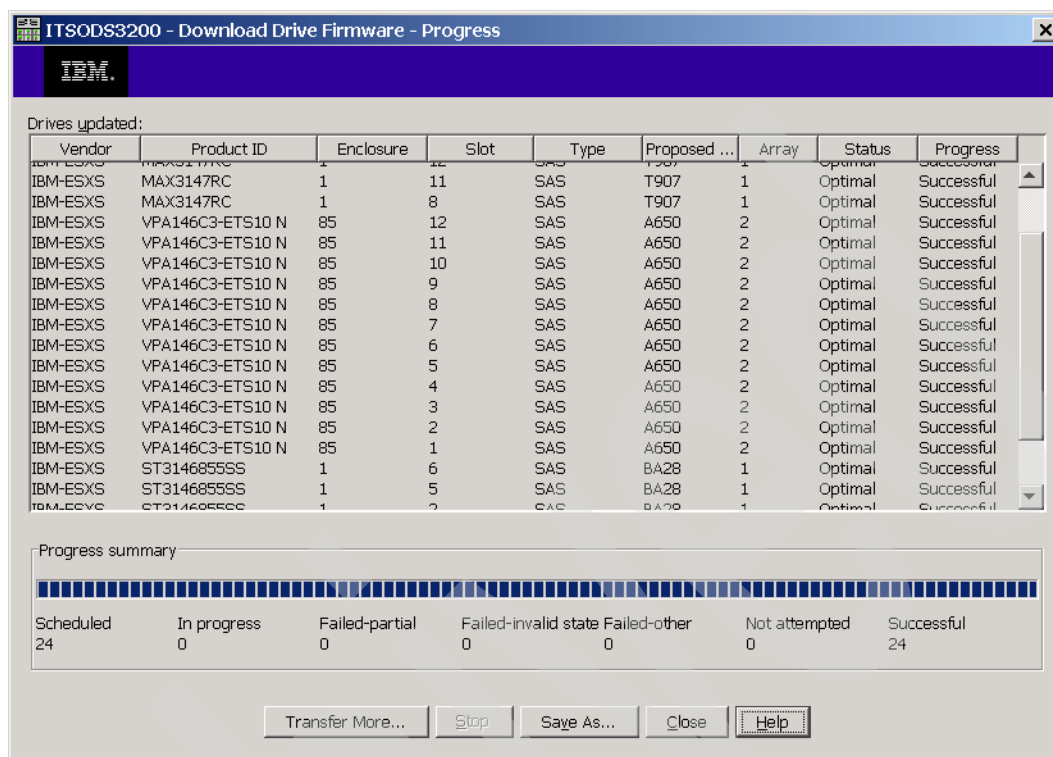

Figure 14-33 Drive update complete
8. After the update completes, a summary is displayed (Figure 14-33). If you want to update more drives, click **Transfer More**; otherwise, click **Close** to exit the drive update window.